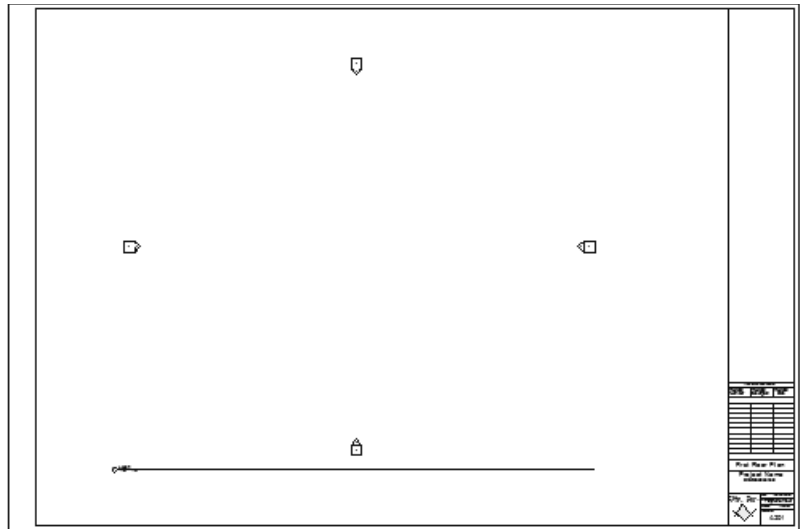

Figure 1–47
11. Open this sheet view. Drag the associated **Level 1** floor plan view onto the sheet, as shown in Figure 1–47.